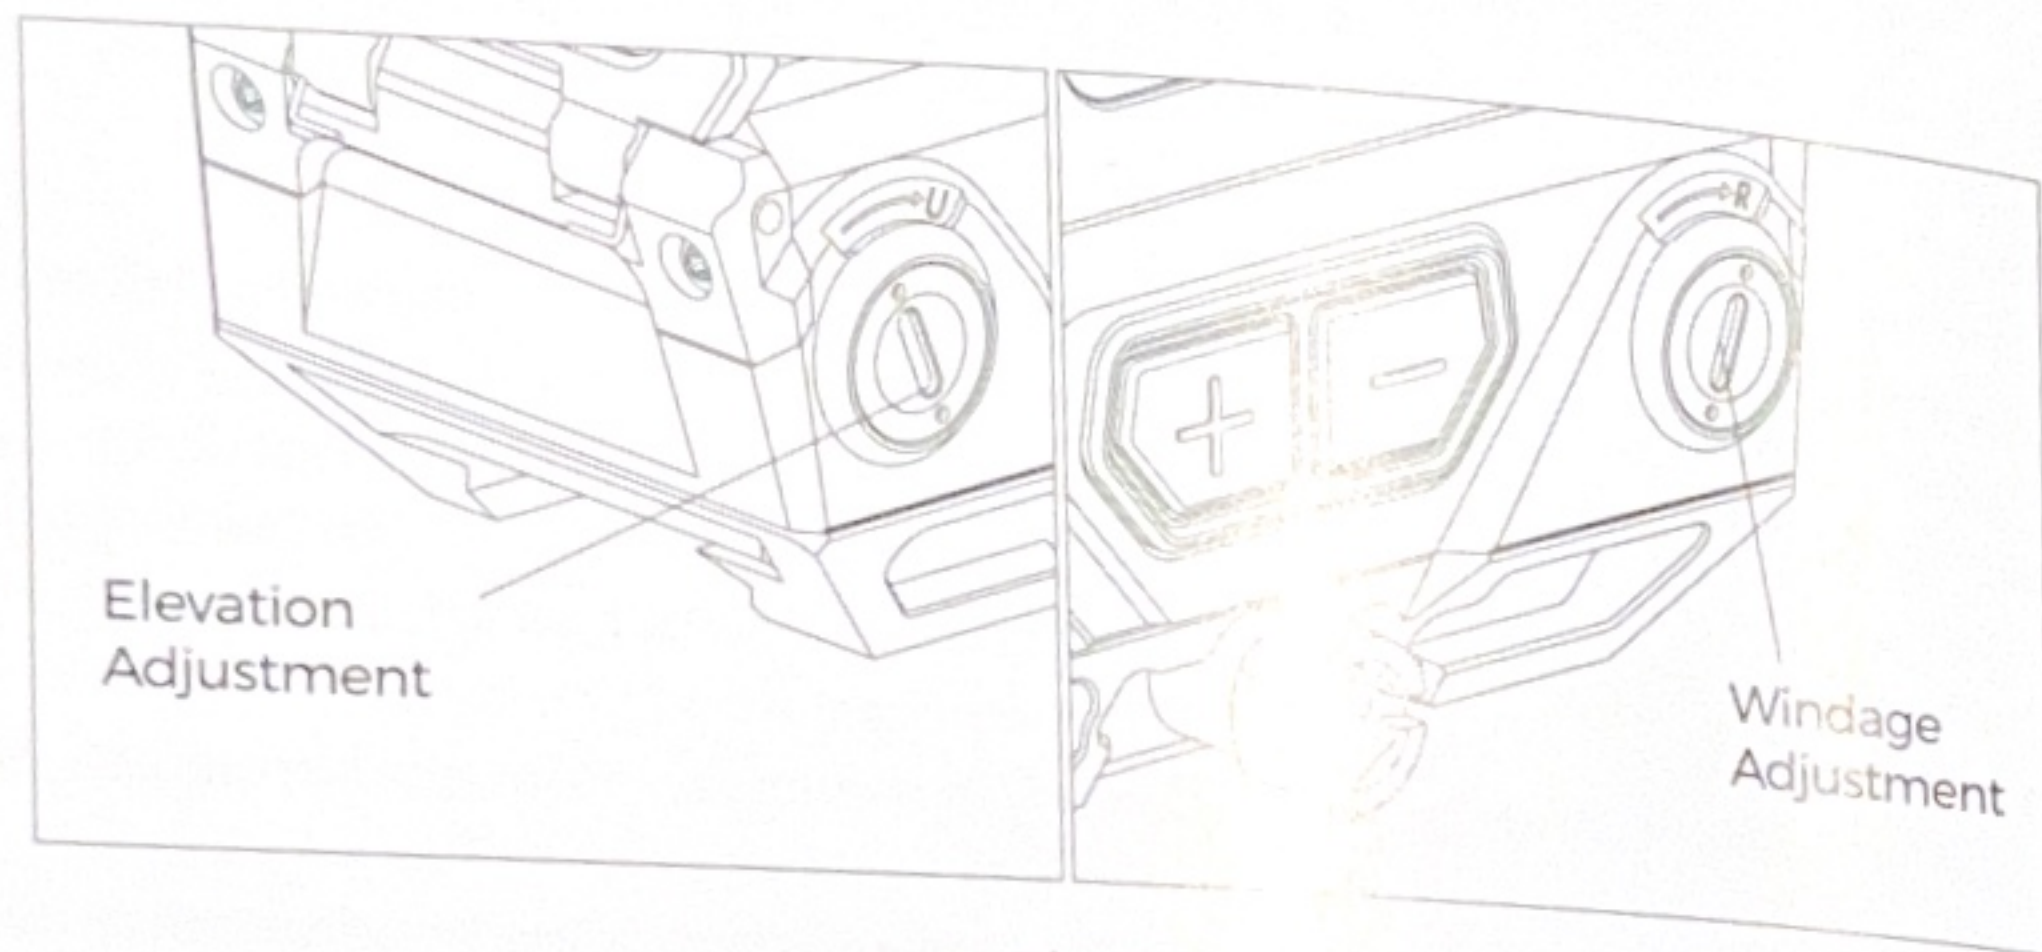

Fig 22
- 3) The Elevation adjustment is located on the right side of the housing and the windage adjustment is located on the left side of the housing. Adjustments can be made using the included tools. (See Figure 22)